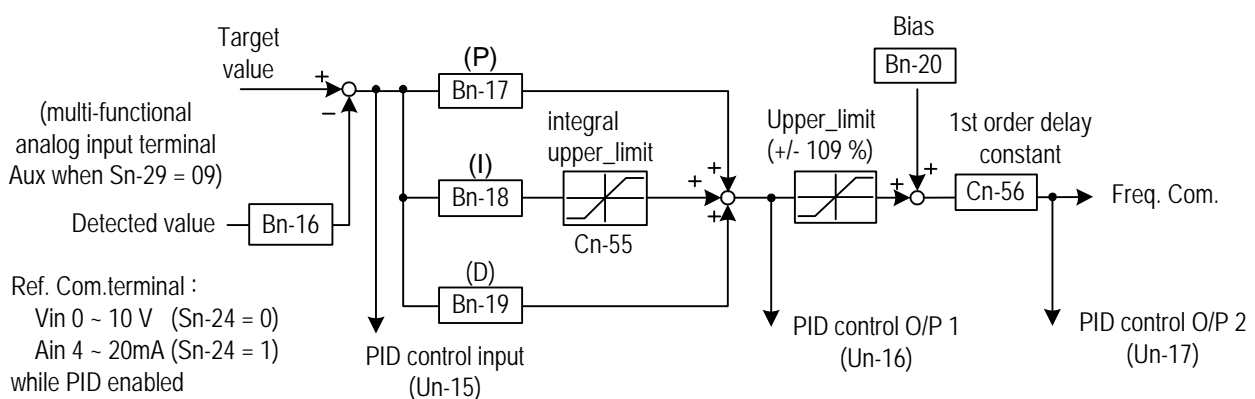

Fig.12 Block diagram for PID control in inverter
(14) Multi-function Analog Output AO1 Gain (Bn-14)
(15) Multi-function Analog Output AO1 Gain (Bn-15)
(16) PID Detection Gain (Bn-16)
(17) PID Proportional Gain (Bn-17)
(18) PID Integral Time (Bn-18)
(19) PID Differential Time (Bn-19)
(20) PID Bias (Bn-20)
- The PID control function is a control system that matches a feedback value (i.e., a detected value) to the set target value. Combining the proportional (P), integral (I) and derivative (D) control make the control possible to achieve required response with the constant setting and tuning procedure of proportional gain Bn-17, integral time Bn-18 and derivative time Bn-19.
- Fig. 12 is a Block diagram of the inverter's internal PID control.